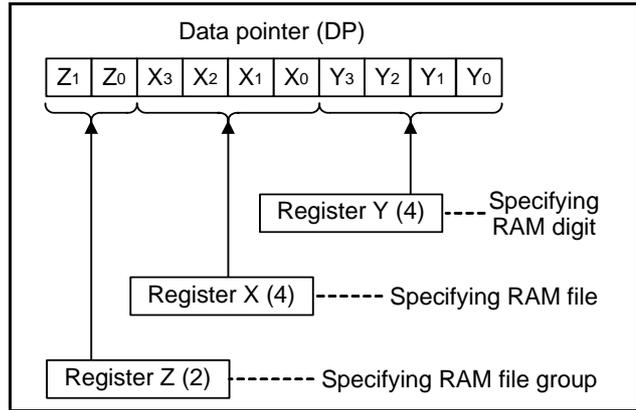
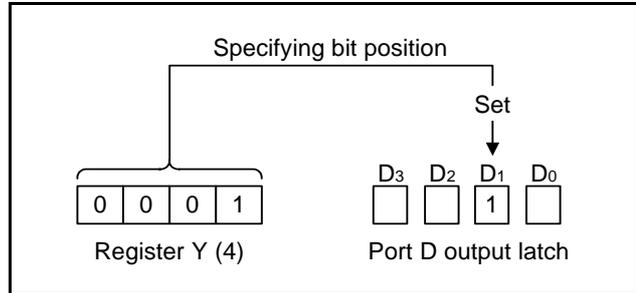

Fig 14. Data pointer (DP) structure
Fig 15. SD instruction execution example
(9) Data pointer (DP)
Data pointer (DP) is used to specify a RAM address and consists of registers Z, X, and Y. Register Z specifies a RAM file group, register X specifies a file, and register Y specifies a RAM digit (Figure 14). Register Y is also used to specify the port D bit position. When using port D, set the port D bit position to register Y certainly and execute the SD, RD, or SZD instruction (Figure 15).